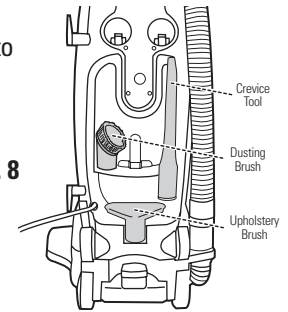

Fig. 8
- Attach crevice tool, dusting brush and upholstery brush into storage area on the back of the vacuum. (Fig. 8)